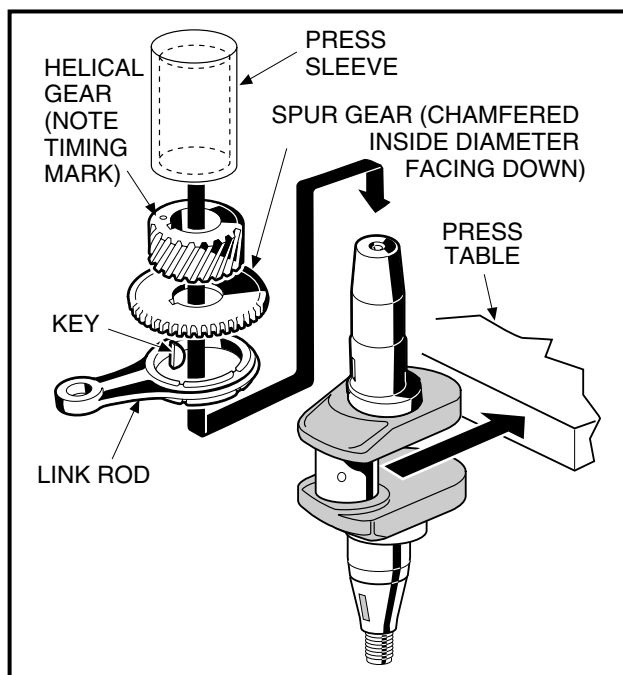
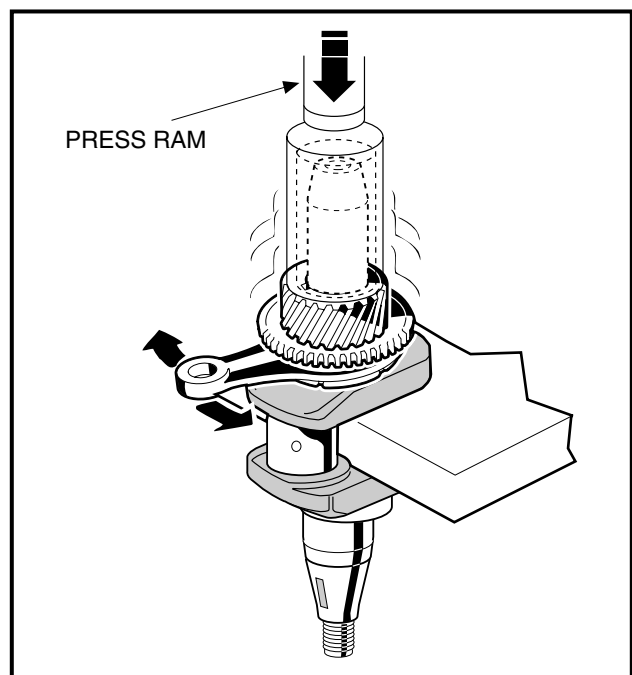

Figure 2-89 Crankshaft Installation
Figure 2-90 Press On Spur Gear and Helical Gear
3. If the link rod was removed from the PTO side of the crankshaft, support the crankweb as shown, slide the link rod onto the crankshaft, and install the key. Press the spur gear and helical gear onto the crankshaft **(Figure 2-89, Page 2-39 and Figure 2-90, Page 2-39).** See following **CAUTION** and **NOTE**.
NOTE: Make sure the chamfered inside diameters of the spur gear and helical gear are oriented downward on the crankshaft as shown **(Figure 2-89, Page 2-39).**